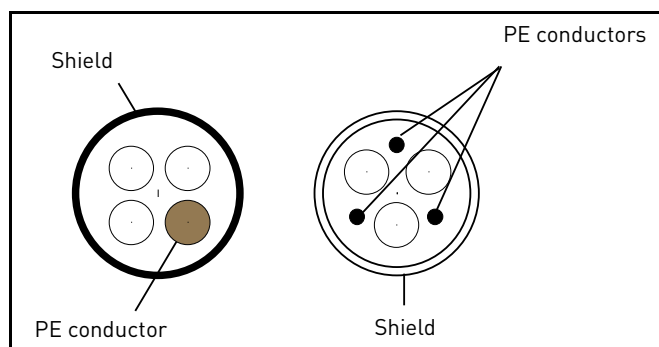

Figure 17.
- 2 = Symmetrical power cable equipped with concentric protection wire and intended for the specific mains voltage. (MCMK or similar recommended). See Figure 17.
- 3 = Symmetrical power cable equipped with compact low-impedance shield and intended for the specific mains voltage. [MCCMK, EMCCK or similar recommended; Recommended cable transfer impedance (1...30MHz) max. 100mohm/m]. See Figure 17.